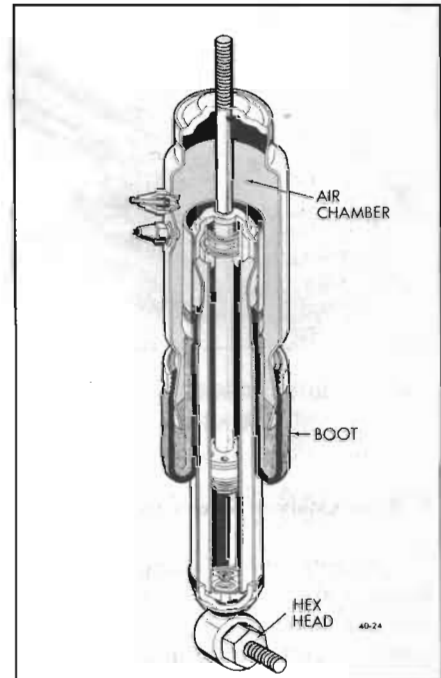

Figure 40-24—Superlift Shock Absorber
d. The Superlift shock absorber is essentially a conventional hydraulic unit with a pliable nylon reinforced neoprene boot acting as an air chamber. See Figure 40-24.